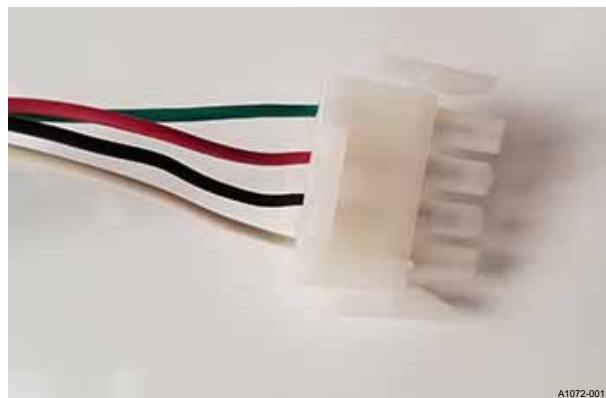

FIGURE 14: Communicating Low Voltage Molex Plug (19 SEER)
3. Strip the four wires and make the necessary thermostat connections noted in the thermostat wiring diagrams. Refer to Figures 14 & 16.